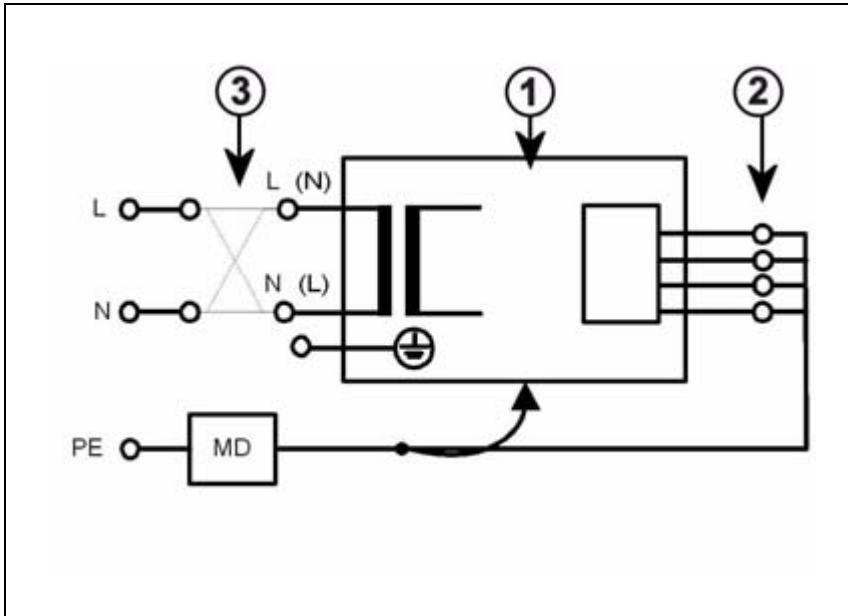

Fig. 3: Measuring circuit for direct measurement of the system leakage current in compliance with DIN VDE 0751-1/2001-10, Fig. C5 for protection class I.
If the direct measurement of the leakage current is used (measurement setup according to \(Fig. 3 / p. 26\)), the system must be insulated during the measurement and must not be touched.
- ⇒ **No housing parts of the system may be touched during direct measurement of the leakage current (measurement setup according to (Fig. 3 / p. 26)).**